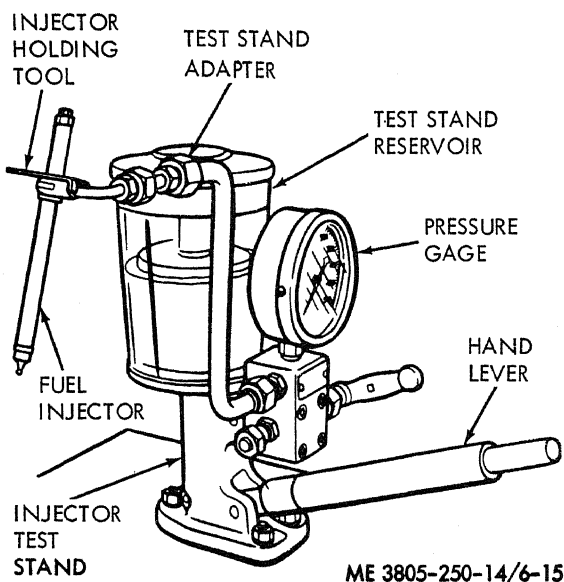

Figure 6-15. Injector test stand.
(1) Prepare the injector test stand (65-0934), fig. 6-15) as follows:
(2) Clean carbon deposits from the tip of the injector with a brass wire brush. Be careful not to scrape the Teflon coating above the carbon seal groove.
(3) Connect the injector to the test stand adapter, tip pointing down, as shown in figure 6-15.
(1) Loosen the adjusting screw locknut and place the injector in the test stand as shown in figure 6-15.
(2) Adjust opening pressure as follows: